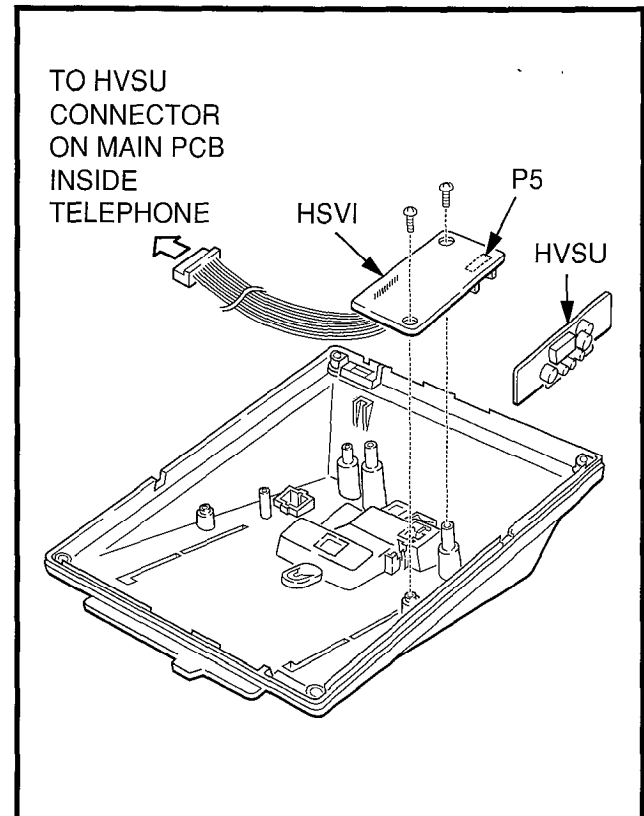

FIGURE 7-5—HVSI/HVSU INSTALLATION
- 2) Align the **P5** connector on the HVSI PCB with its receptacle on the HVSU PCB (Figure 7-5). Apply firm, even pressure to the PCBs to ensure that the connectors mate properly (they click).